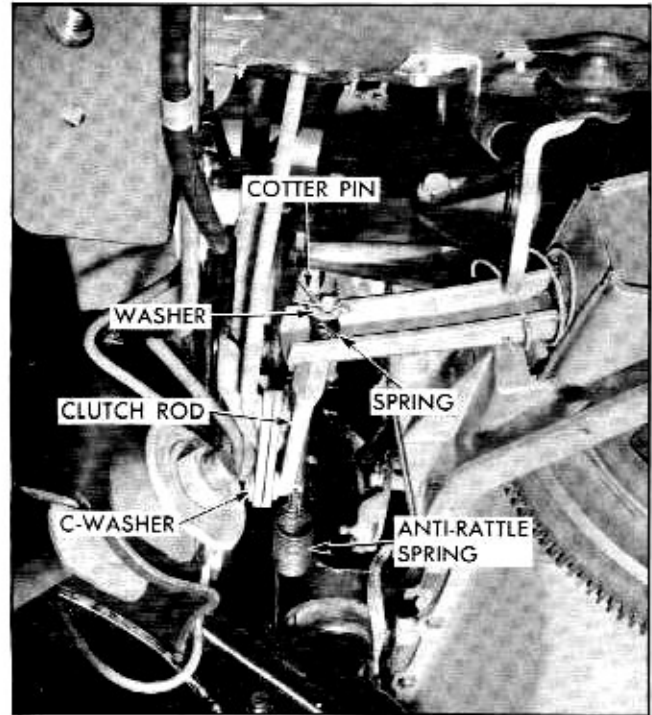

Fig. 6D-5 4 Cylinder Engine Lower Clutch Linkage
3. Remove cotter pin from clutch rod at fork end (Fig. 6D-5).